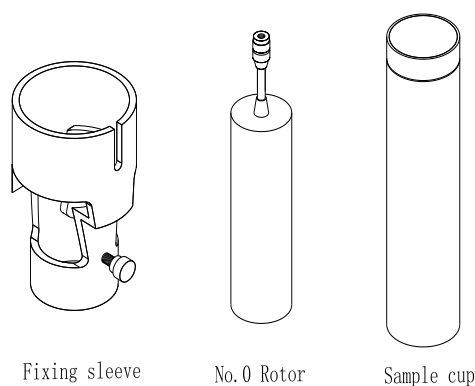

Fig. 4
(1) ULR Rotor Accessories consists of a fixing sleeve, rotor #0 and a testing tube, as shown in Fig. 4. This part can be only used in testing with rotor #0, and cannot be used with any other rotor.